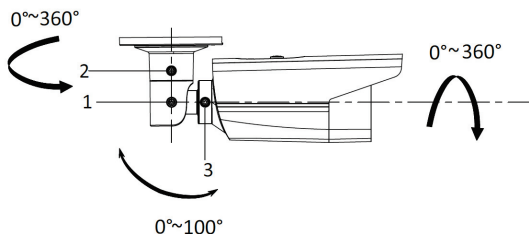

Figure 3: Camera adjustment in 3 axes; 1,2,3 – locking screws
The camera is designed to be used in an indoor and also an outdoor environment (IP 67 rating) where it can be installed on the wall. It is possible to easily set up camera's installation position owing to a joint holder which can be adjusted in all three axes (see the figure 3).
- Perform camera registration (see the chapter: Registration to a server) to obtain access to preview and align the camera in the required direction, allowed in three axes, see figure 3.